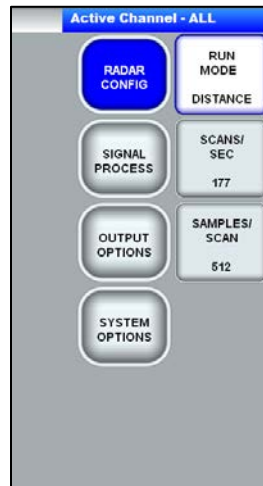

Figure 41: Run Mode Distance.
The diagram at the top of the System Settings menu provides the User with a quick visual aid for describing the GPR antenna position relative to the GPS antenna location (Figure 41). The GPS offset positions (if any) are saved as the In-line (X) and Cross-Line (Y) offset values in the file header and are used by RADAN 7 to correct the antenna offset positions for processing multi channel files .